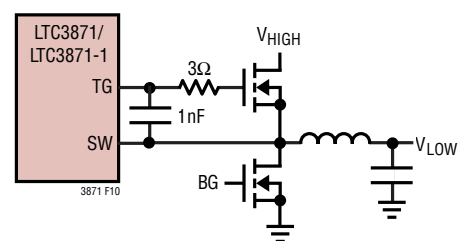

Figure 10. Filter for TG Traces > 25mm
- The TG traces from the controller IC to the gate of the external MOSFET should be kept as short as possible to minimize the parasitic inductance. This inductance can cause voltage spikes that can potentially exceed the ABS Max rating of the drivers and damage them. A 3Ω resistor and 1nF capacitor can be used to filter these spikes as shown in Figure 10. When using the 9V/10V DRV_{SET} settings, or if the TG traces are longer than 25mm, this filter network must be used on both TG1 and TG2. The 1nF capacitor should be placed as close to the TG/SW pins as possible.